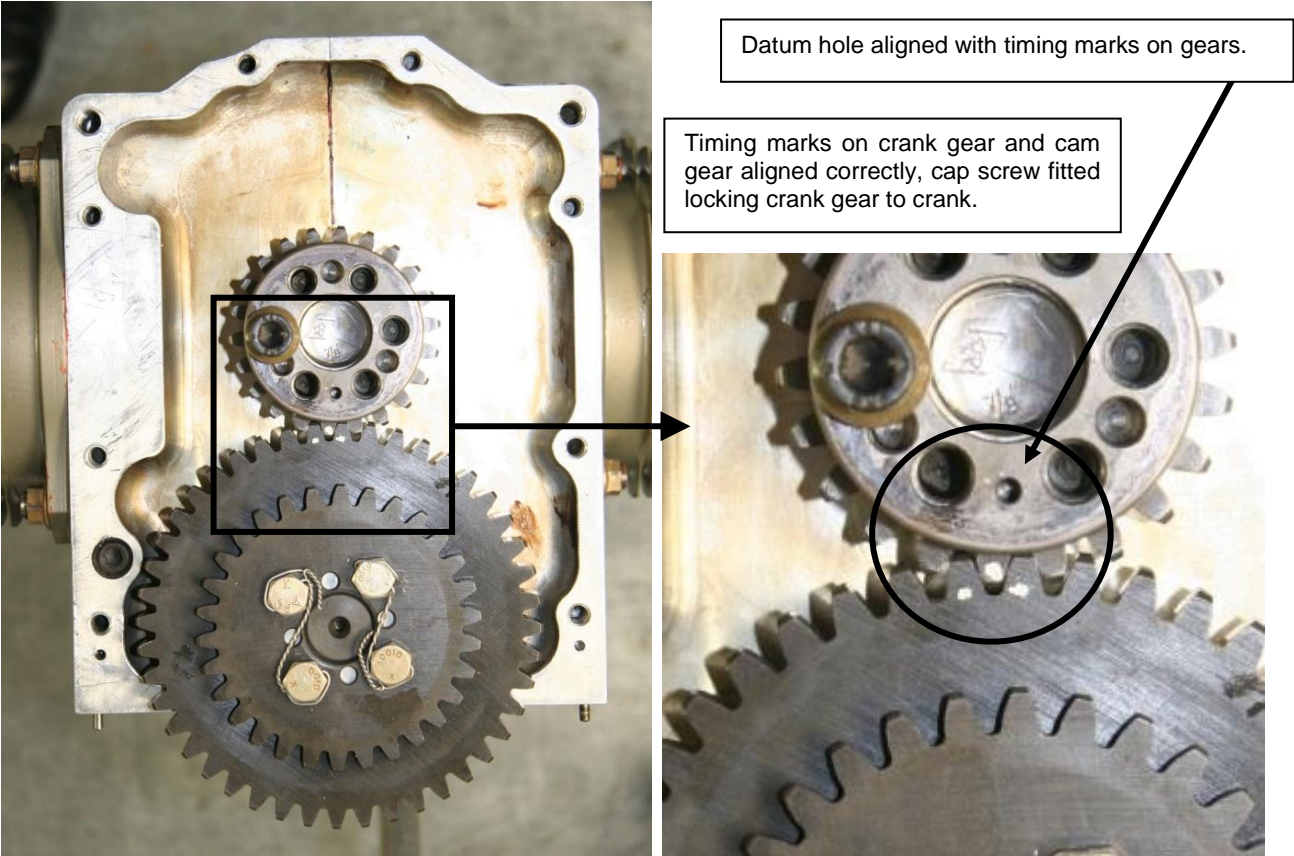

Figure 167 – Setting Cam Timing
- The bead should be applied 22mm down from the flywheel attachment face (see Figure 167).**
- The camshaft drive gear can now be fitted to the end of the crank as shown in Figure 167 – so that the tooth on the crankshaft gear with the timing mark is between the two teeth of the cam gear with timing marks.
- Start with the engine positioned at TDC (i.e. piston #1 is fully extended out and the timing marks on the crank gear and camshaft timing gear are meshed as shown in Figure 167)